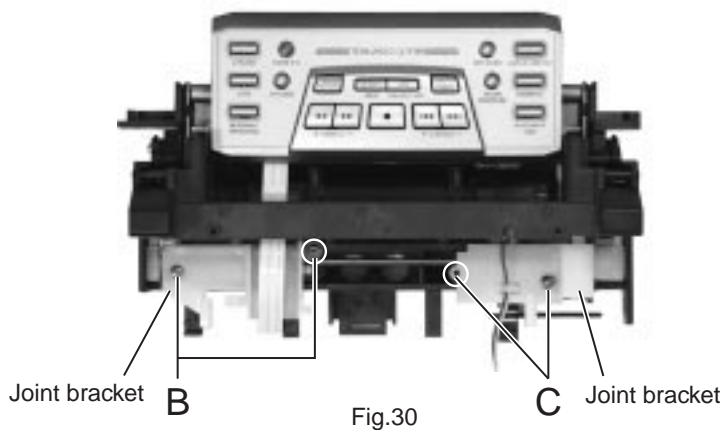

Fig.30
**■ Removing the Drive Motor** (See Fig.30 and 31)